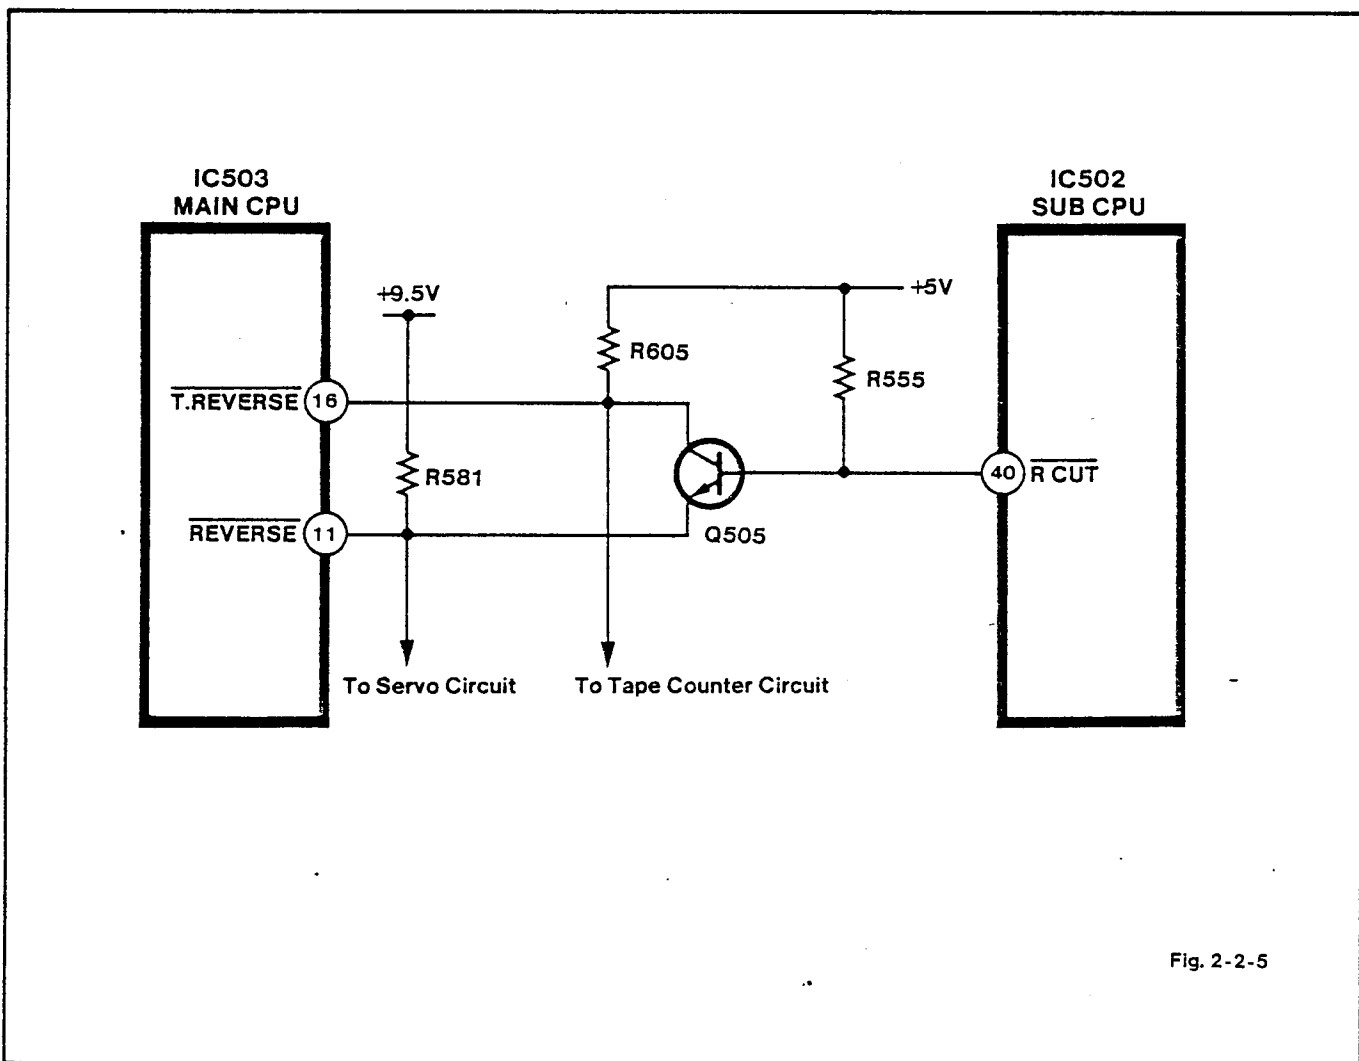

Fig. 2-2-5
4. TAPE COUNTER COUNT UP / DOWN COMMANDS (See Fig. 2-2-5)